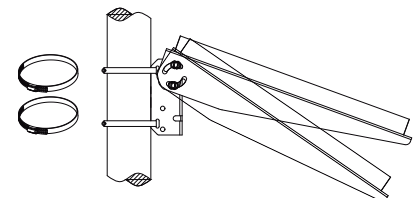

figure 2
Step4. For pole mounting, use hose clamps(not included) to fix the PV module and mount assembly securely to the pole. See figure 2. The U-Bolts, Steel Clamps and Molly Bolts are not included in the kit